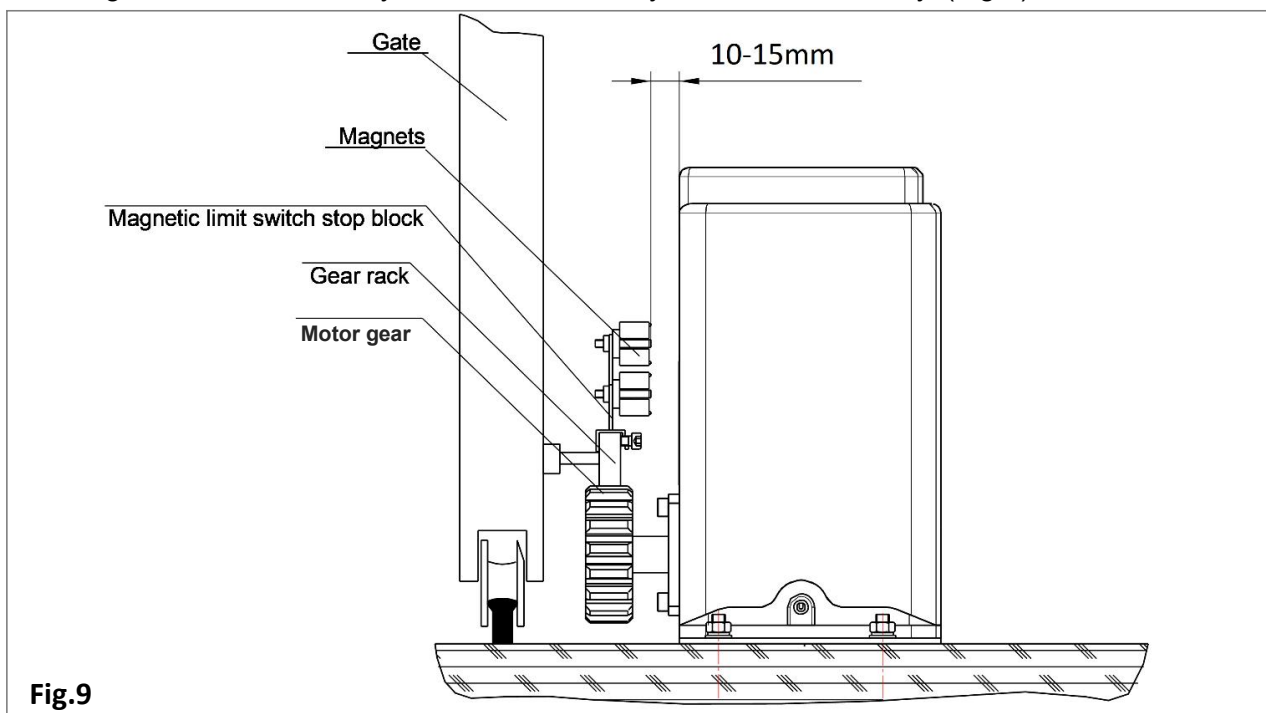

Fig.9
- e. Ensure the magnets are positioned approximately 10-15mm away from the limit switch. If the magnets are too far away, the limit switch may fail to work correctly. (Fig.9)